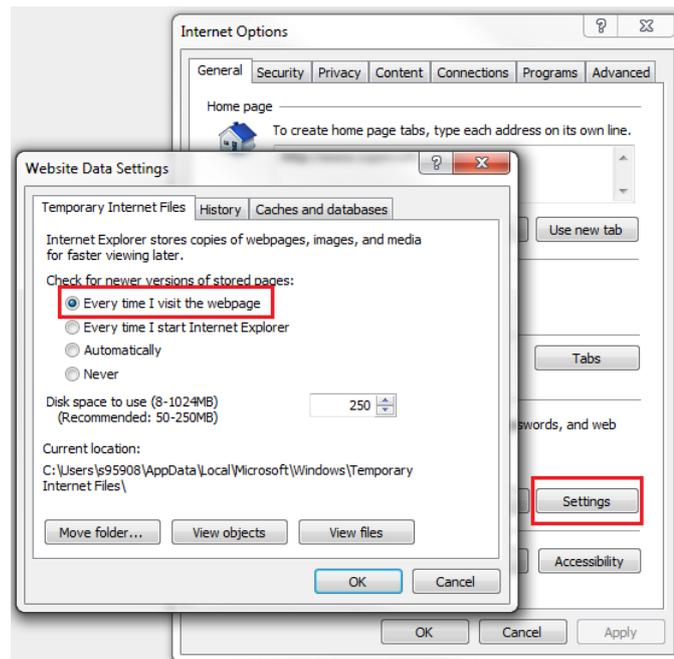

Figure 3-25 Website Data Settings
Double-click the IE icon to run the software, click on the menu **Tool** → **Internet Options**, click on the **Settings (S)** in the **General** Tab, and change “**Check for newer version of stored pages**” to “**Every time I visit the page**”, as shown in the Figure 3-25: